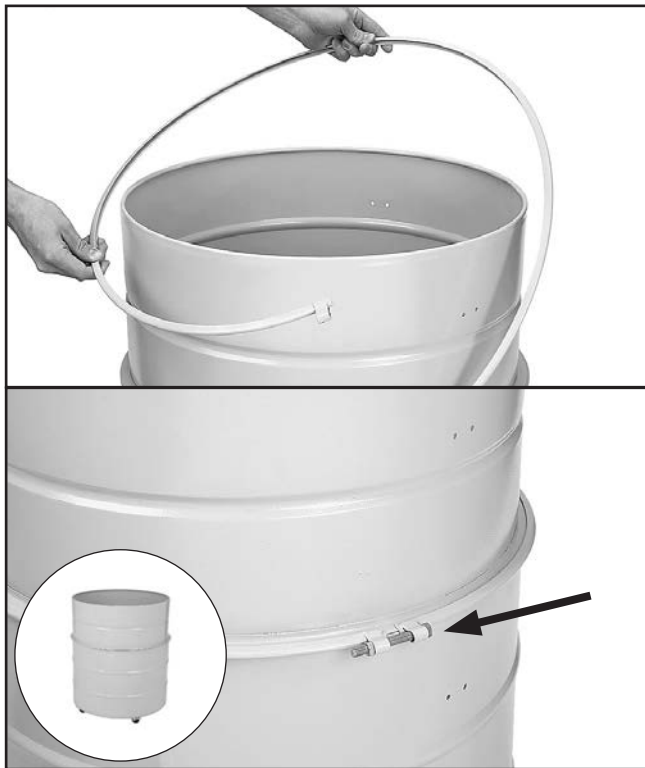

Figure 28. Installing metal clamp around collection drum.
24. Connect the upper and lower collection drums together with the included metal clamp and the provided hex bolt and nut, as shown in **Figure 28**.